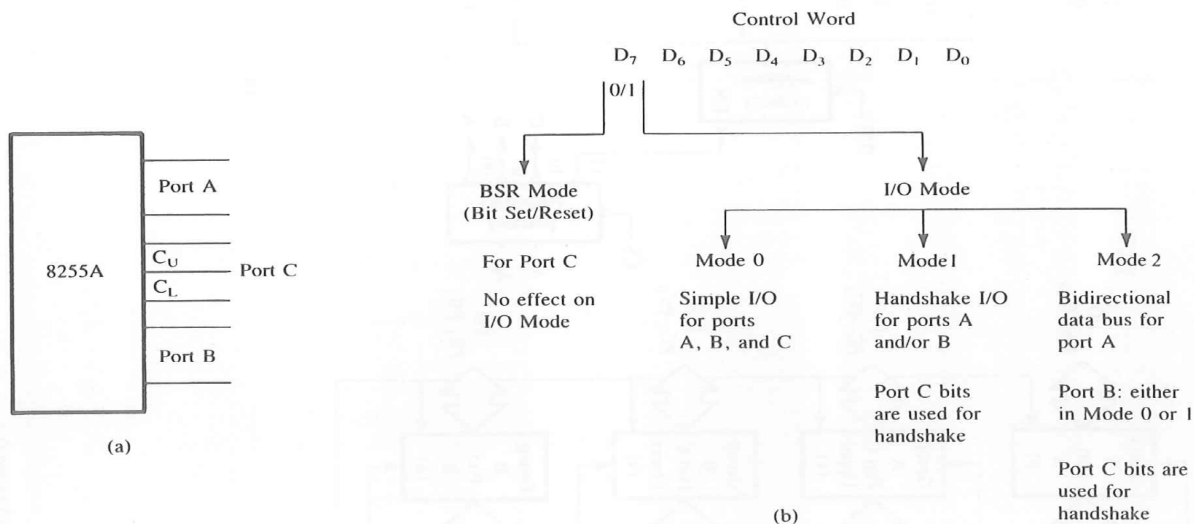

Figure 3.1 (a) 8255 I/O Ports and 3.1(b) 8255 Modes
- ❖ The 8-bits of port C can be used as individual bits or be grouped in two 4-bit ports: C_{UPPER} (C_U) and C_{LOWER} (C_L), as in figure 3.1(a).
- ❖ The figure 3.1(b) shows all the functions of the 8255A, classified according to two modes:
- The figure 3.1(b) shows a register called the control register.